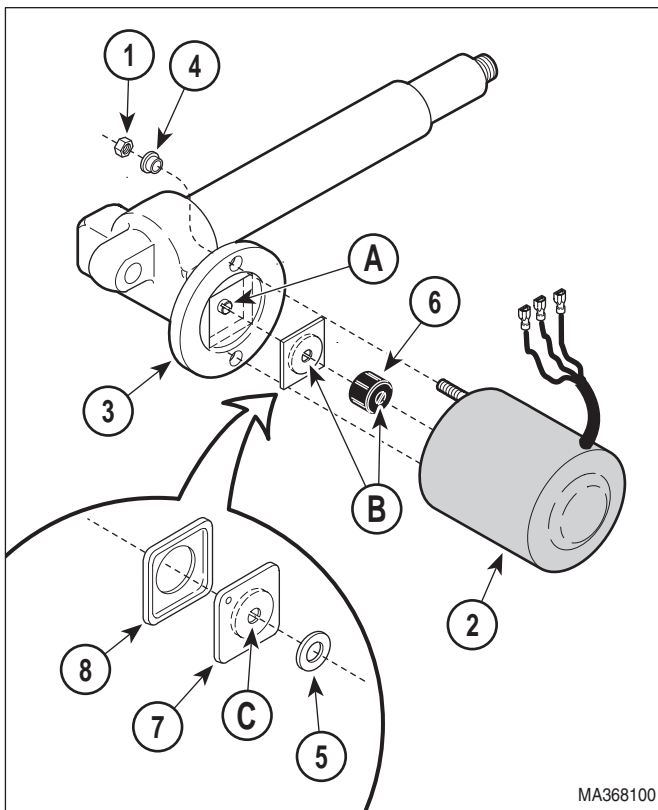

Figure 4-24. Actuator Motor / Actuator Brake Removal / Installation
- (1) Remove malfunctioning actuator assembly: Tilt actuator assembly (Refer to para 4.5). Back actuator assembly (Refer to para 4.7). Foot actuator assembly (Refer to para 4.11).
- (2) Remove two nuts (1, Figure 4-24) and actuator motor (2) from actuator mechanism (3).
- (3) Remove two shoulder washers (4) from actuator mechanism (3).
- (4) Remove spacer (5) and motor coupler (6) from shaft of actuator motor (2).